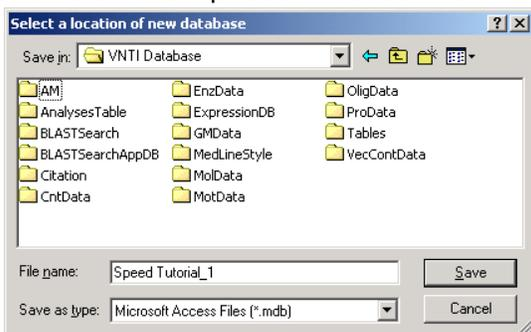

Figure 2 Select a Location of a New Database Dialog Box
3. In the Select a Location of New Database dialog box (Figure 2), name the new database file **Speed_Tutorial_1**, navigate to a convenient drive and folder for saving the new file, and click **Save**.